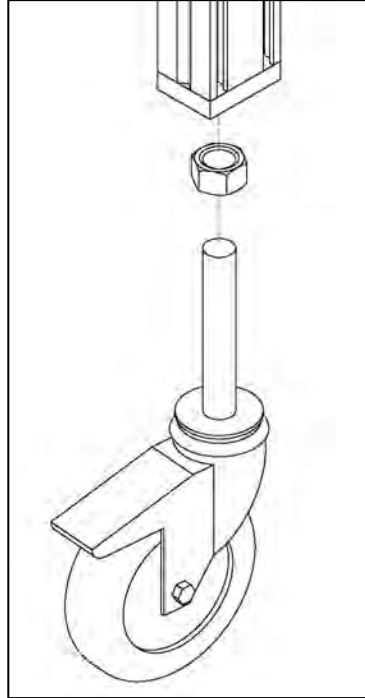

Figure 1
b. Install the Castors by threading the 4 1/2" stem into the base of the stand where the Leveling Foot was previously. The Caster will have its own 3/4-10 Hex Nut (**Figure 1**).